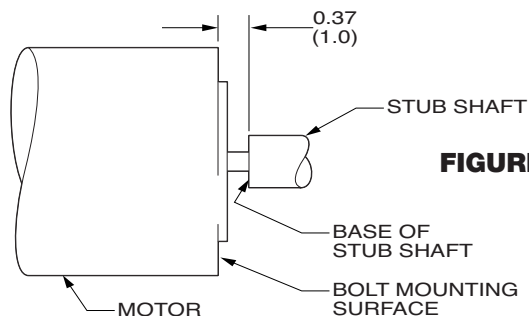

FIGURE 1
1. Liberally apply Loctite RC/680 retaining compound to the motor shaft and slide the stub shaft on, positioning the base of the stub shaft 0.37" from the bolt mounting surface of motor. For clarification, refer to Figure 1 below. Loctite aids in preventing fretting and subsequent shaft failure. Wipe off excess Loctite. Apply Loctite to the two dog point (flat point) set screws, position in the set screw holes aligned with the keyway of the motor shaft and torque to 85 - 90 in. lbs.